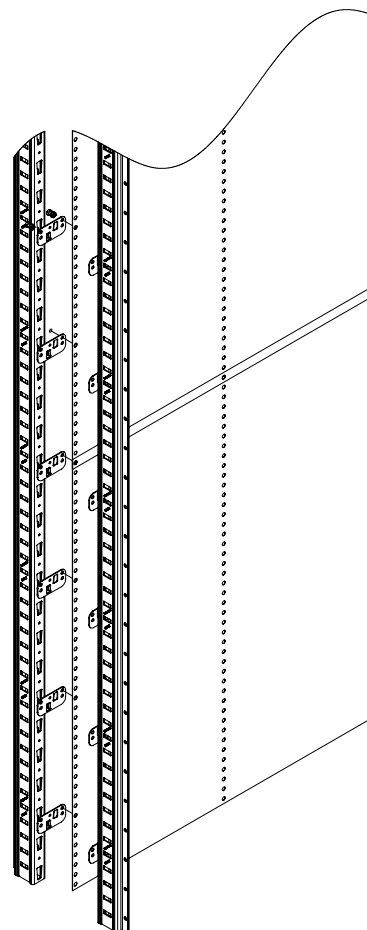

FIGURE 13
**3E.** Stand units up and place post sections on either side of back panel so that combination clips (or connector strips) align with each other and bolt together using 1/4-20 x 1/2 truss head bolts and nuts through top hole in clip. Figure 13